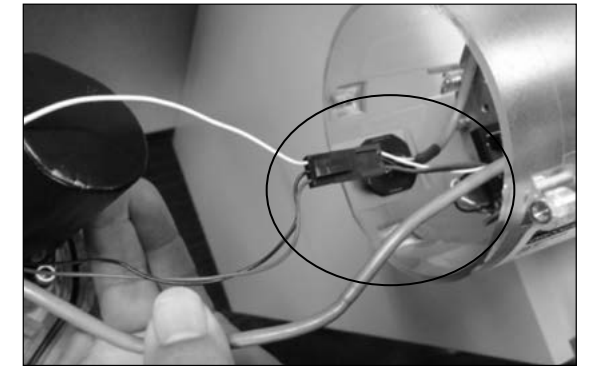

Figure 13.6 -Squeeze to release cord
6. Squeeze to release the black connector (circled in Figure 13.6), from the mating connector.